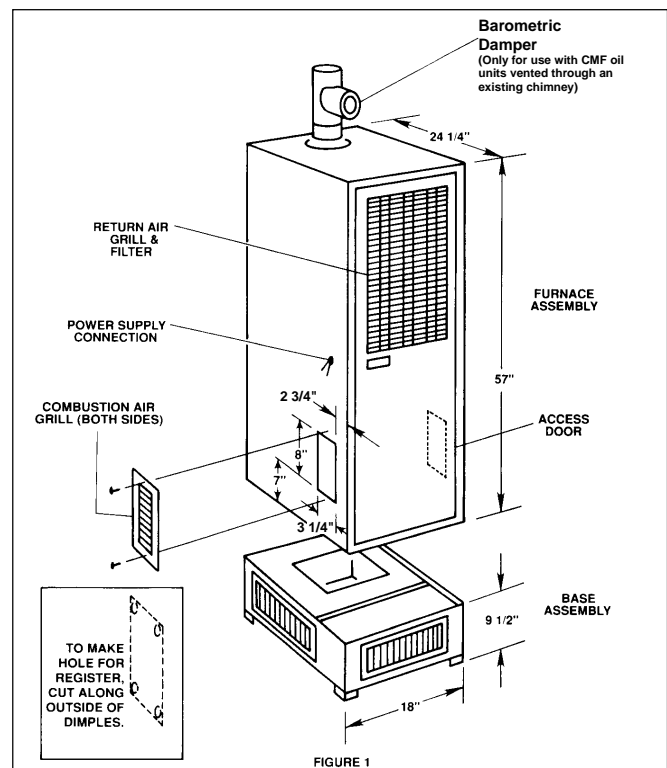

Figure 1. Non-Direct Vent Furnace Installation
The combustion air may be drawn directly from the conditioned space using the side panel grilles, as shown in Figure 1. However, some installations require a direct vent system (see the "Combustion and Ventilation Air Requirements" section for more details).
- In each side panel, cut out the rectangle created by the outside of the dimples, as shown in Figure 1. The approximate location and size of the rectangular area to be cut out is shown in Figure 1.
- Set the furnace on the cottage base without damaging the foam gasketing material on the base top, as shown in Figure 1. Ensure that the furnace is seated on the back of the base.